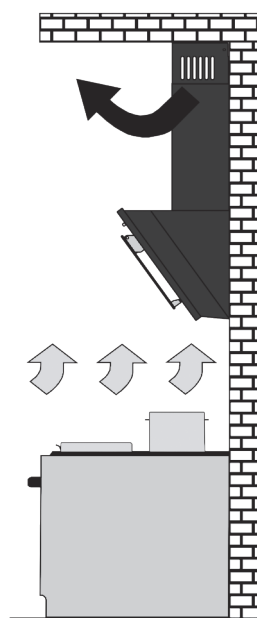

Fig. 2
- ☒ recirculation (closed-loop kitchen air circulation) (Fig. 2).